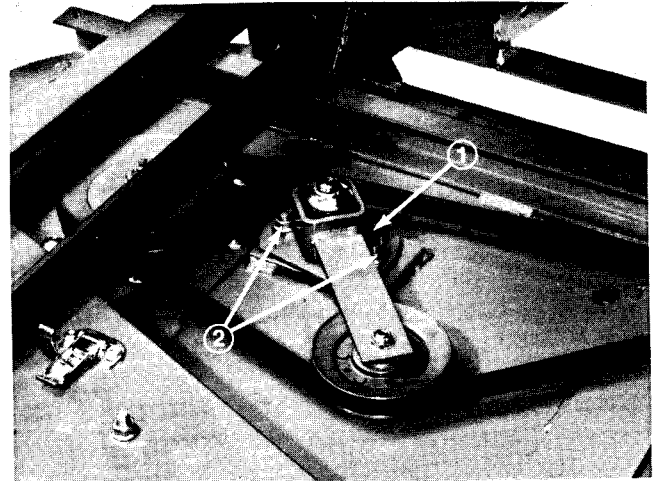

Figure 33
3. Loosen the two nuts securing the idler plate to the deck housing (Fig. 33). The belt tension will be released when the nuts are loosened.
3. Loosen the two nuts securing the idler plate in place so that the tension of the idler pulley against the belt is released (Fig. 33). Remove the belt from the spindle pulley that will be replaced.